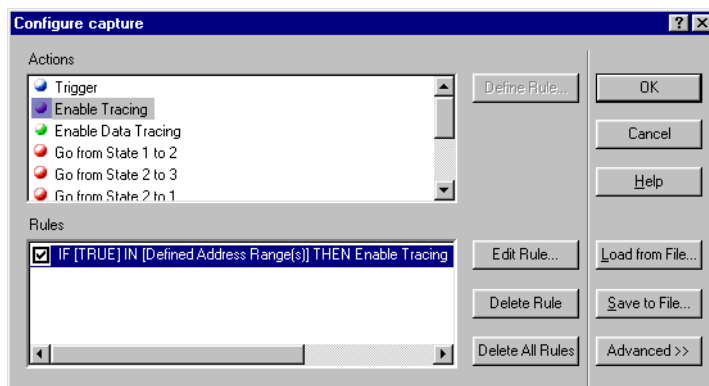

Figure 8-52 Completed Configure capture dialog box
12. Click **Finish** to complete the rule. The Configure capture dialog box shown in Figure 8-52 now has one rule in the Rules list.